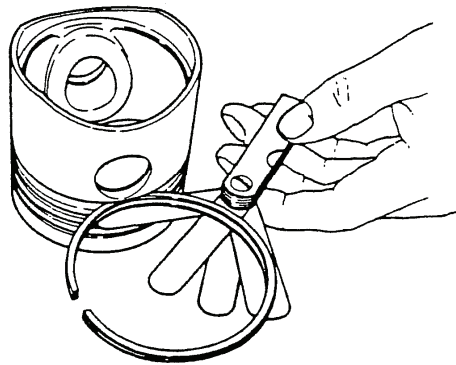

Figure 4. Piston Ring and Groove Clearance Measurement.
5. Measure the piston ring side clearance according to Figure 4 and Table 2. Replace the piston if the clearance exceeds the service limit.